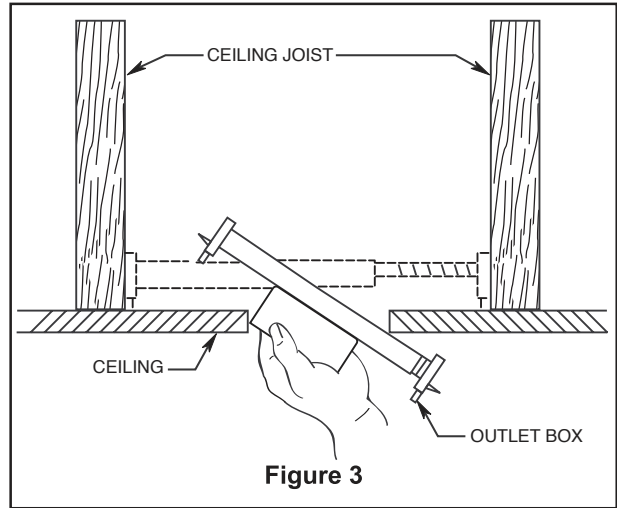
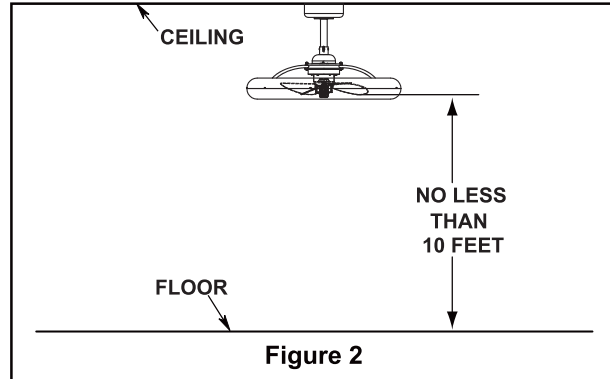

Figure 3
Figure 2
Your new ceiling fan will require a grounded electrical supply line of 120 volts AC, 60 HZ, 15 Amp Circuit. Electrical code requires use of a fan-rated outlet box to support the extra weight and motion associated with a ceiling fan. A fan-rated box will be labeled as such and typically supports up to a 70lbs ceiling fan. Fan-Rated Outlet Boxes vary in ratings and design. Ensure the ratings of your ceiling fan outlet box meet the requirements for the ceiling fan being installed. Figure 1, Figure 2 and Figure 3 depicts different structural configurations that may be used for mounting the outlet box.
Deep-profile use (Figure 2)
Brace use (Figure 3)
- Remove the hairpin clip and clevis pin from the bottom of the downrod. Retain the pin and clip for reinstallation in Step 4. (Figure 2)
The fan must be hung with at least 10' of clearance from floor to ceiling fan. (Figure 2)
To avoid possible electrical shock, be sure electricity is turned off at the main fuse box before wiring. (Figure 2)
- Securely attach and tighten the three "L" tabs of canopy screw cover over the three slots of canopy utilizing the key slot twist-lock feature. (Figure 2)
- ❑ Restore electrical power to the outlet box by turning the electricity on at the main fuse box. (Figure 2)